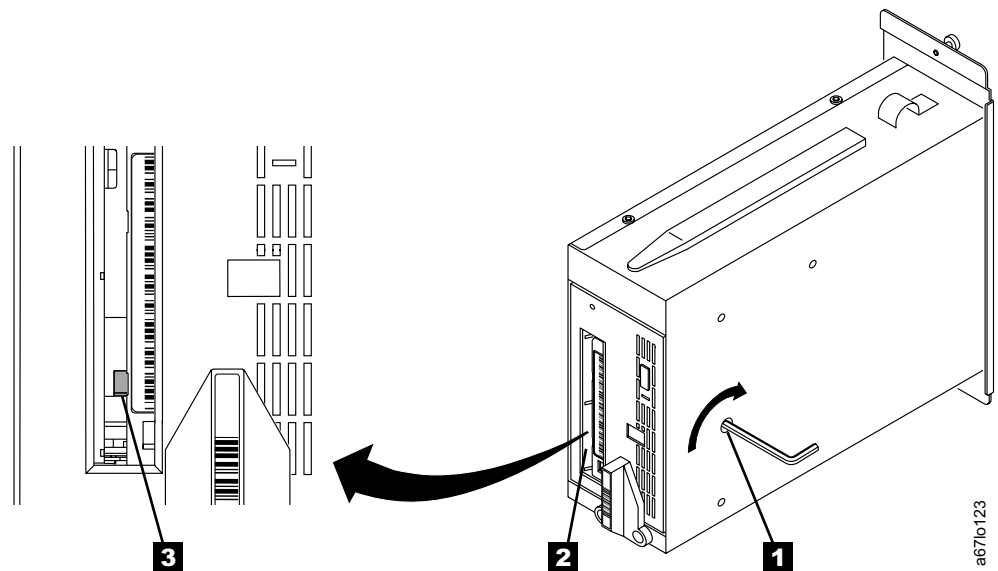

Figure 214. Determining whether the tape is broken
6. Place the drive sled on its side and locate the access hole at the bottom of the unit (see **1** in Figure 214).